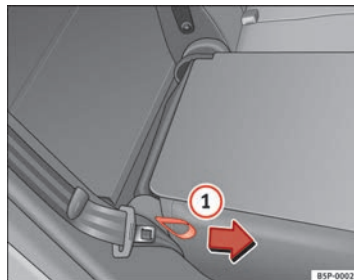

Fig. 99 Folding or opening the rear seat backrest
- Pull the loop on the side of the seat ⇒ Fig. 99 ① in the direction of the arrow and lift the seat backrest into position.